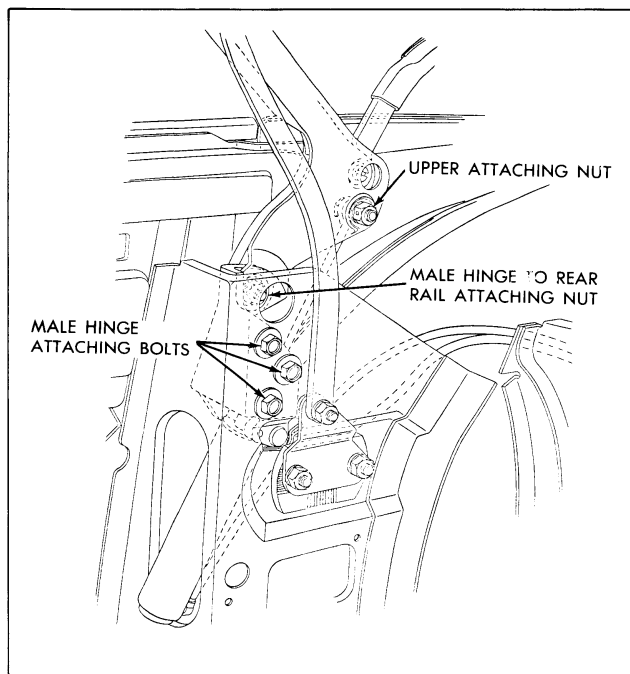

Fig. 21-55 Left Cylinder Removal
6. Remove attaching nut, bolt, bushing and washer from upper end of cylinder (Fig. 21-55).
7. Remove side roof rear rail to male hinge attaching nut and bolt (Fig. 21-55).
8. Mark location of male hinge attaching bolt washers on folding top compartment brace and remove folding top male hinge attaching bolts (Fig. 21-55).
14. Assemble male hinge to top compartment brace using previously removed attaching bolts (Fig. 21-55).